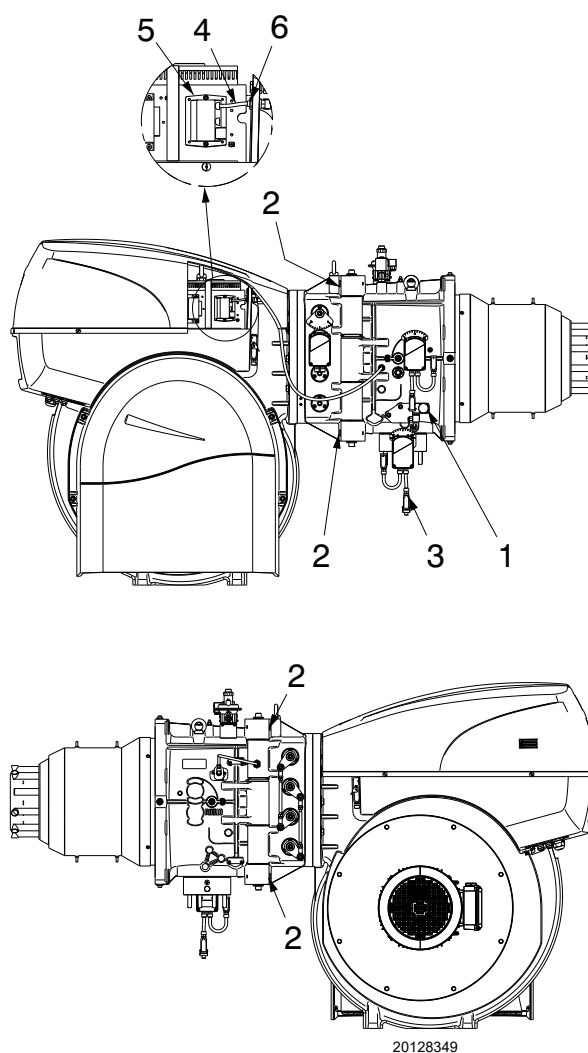

Fig. 38
- Disconnect the electrode cable from the gas pressure switch 1)(Fig. 38).